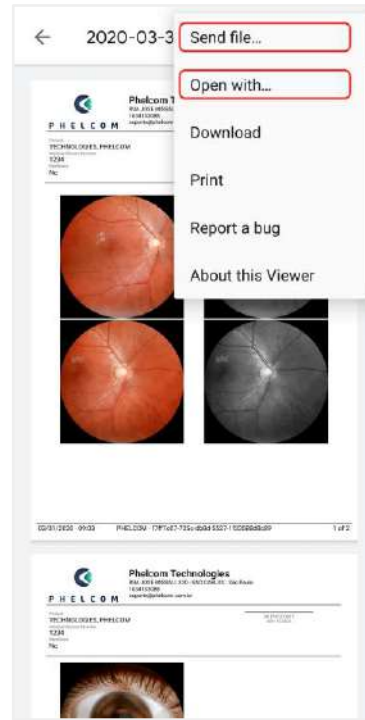
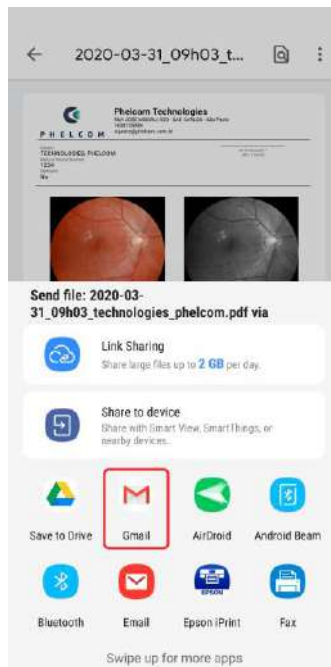
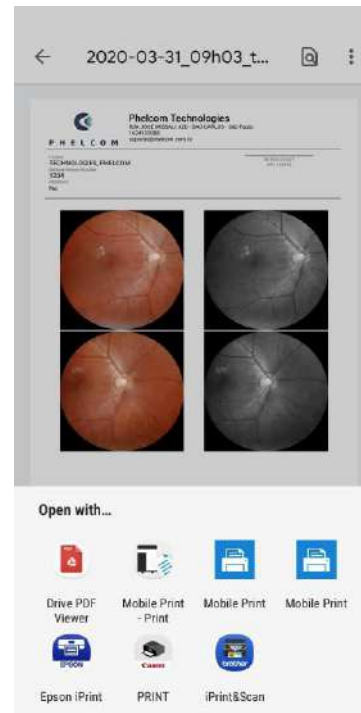

Figure 72: File options
Figure 73: Sending files by email
Figure 74: Print PDF
2. Send file, open with, download, print or report a bug, figure 72
Access “Send file”, figure 72, then choose “Gmail” option, regardless of the user’s email server, figure 73, and follow application instructions.
Access “open with”, figure 72, choose the local printer application, figure 74, and follow the instructions. A Wi-Fi printer is required and must be turned on to show in the available printers list.